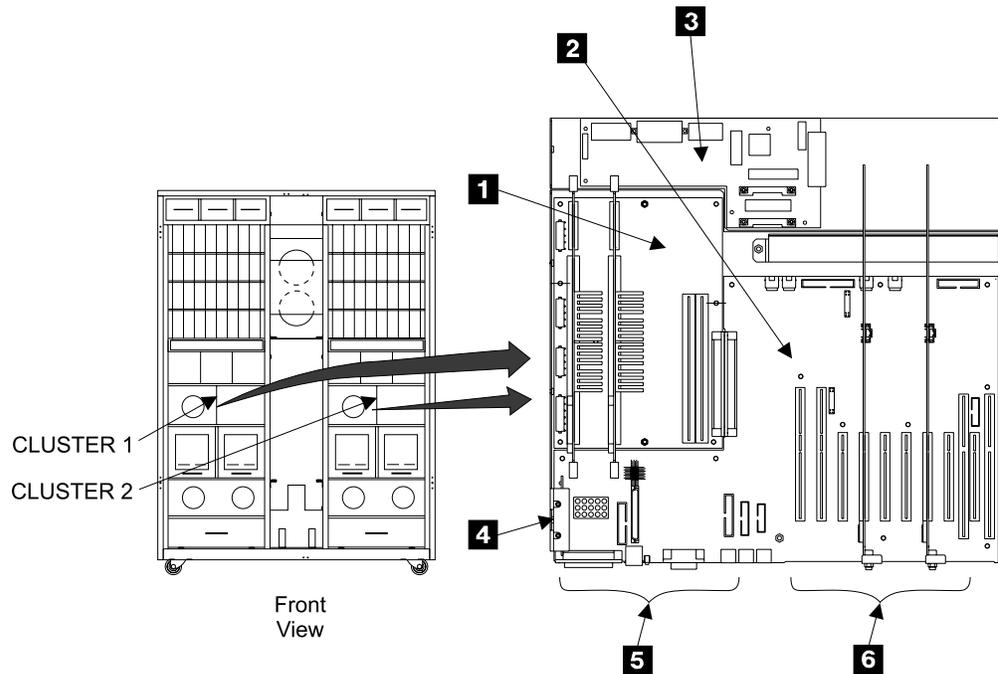

Figure 184. Cluster Bay Planar Locations (S008189n)
12. Remove all of the cards from the system planar **1** and the I/O planar **2** in Figure 184 on page 174:
13. Disconnect all of the internal cables from the system planar **1** and the I/O planar **2** in Figure 184 on page 174. See "Cluster Bay, System, I/O, and Power Planars Location Codes (E10/E20)" and "Cluster Bay, Cable Location Codes (E10/E20)" in chapter 7 of the *Enterprise Storage Server Service Guide, Volume 3*, for cable locations.
19. Remove all of the cards from the system planar **1**, in Figure 184 on page 174 .
20. Disconnect all of the internal cables from the cluster bay power planar, **3** in Figure 184 on page 174. See "Cluster Bay, System, I/O, and Power Planars Location Codes (E10/E20)" and "Cluster Bay, Cable Location Codes (E10/E20)" in chapter 7 of the *Enterprise Storage Server Service Guide, Volume 3* for cable locations.